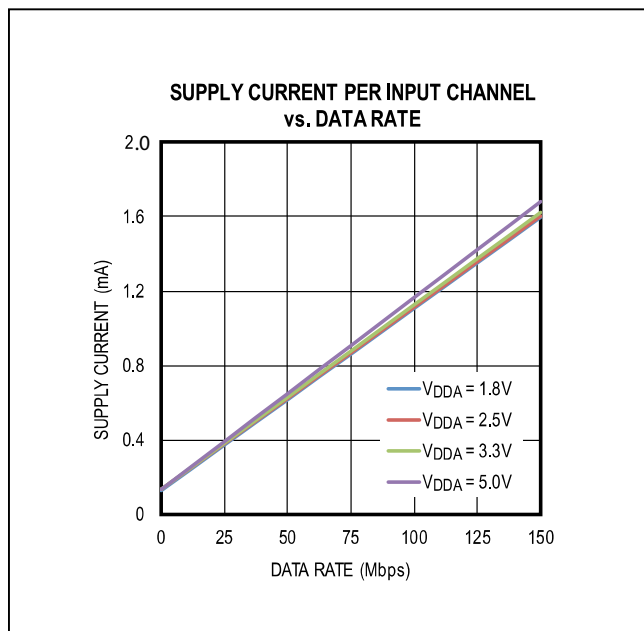
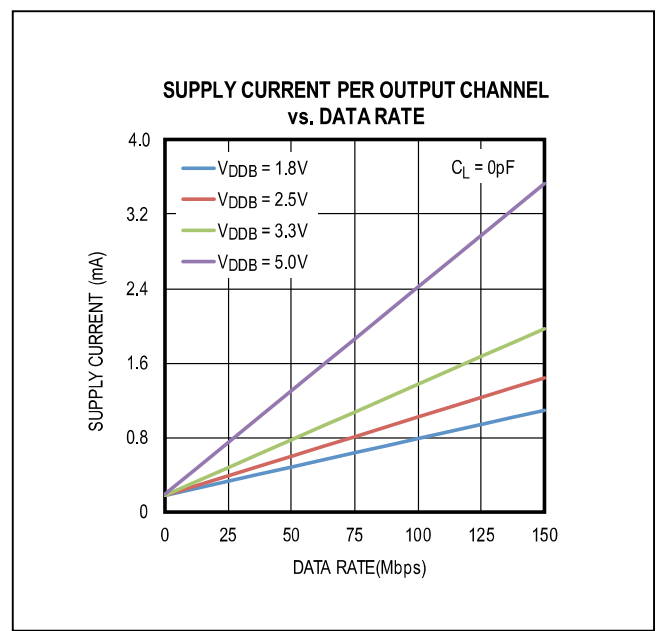

Figure 6. Supply Current Per Input Channel (Estimated)
Figure 7. Supply Current Per Output Channel (Estimated)
The required current for a given supply (VDDA or Vddb) can be estimated by summing the current required for each channel. The supply current for a channel depends on whether the channel is an input or an output, the channel’s data rate, and the capacitive or resistive load if it is an output. The typical current for an input or output at any data rate can be estimated from the graphs in Figure 6 and Figure 7. Please note the data in Figure 6 and Figure 7 are extrapolated from the supply current measurements in a typical operating condition.
The total current for a single channel is the sum of the “no load” current (shown in Figure 6 and Figure 7) which is a function of Voltage and Data Rate, and the “load current,” which depends on the type of load. Current into a capacitive load is a function of the load capacitance, the switching frequency, and the supply voltage.
- Channel 1 is an input channel operating at 2.5V and 20Mbps, consuming 0.33mA, estimated from Figure 6.
- Channel 2 and 3 are input channels operating at 2.5V with DC signal, consuming 0.13mA, estimated from Figure 6.
- Channel 4 is an output channel operating at 2.5V and 100Mbps, consuming 1.02mA, estimated from Figure 7.
- Channel 1 is an output channel operating at 3.3V and 20Mbps, consuming 0.42mA, estimated from Figure 7.
- Channel 2 and 3 are output channels operating at 3.3V with DC signal, consuming 0.18mA, estimated from Figure 7.
- Channel 4 is an input channel operating at 3.3V and 100Mbps, consuming 1.13mA, estimated from Figure 6.